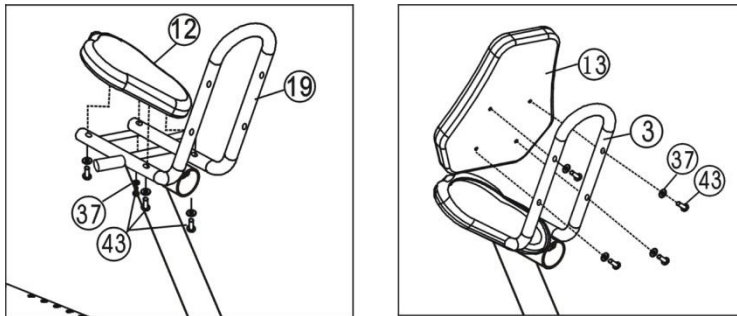

Figure 6
Attach the Seat cushion (12) and Back cushion (13) to the Seat cushion frame (3) with eight pcs of M8×40 Bolts (43) and 8 pcs of Φ8 Flat washers (37). (Refer figure 6)